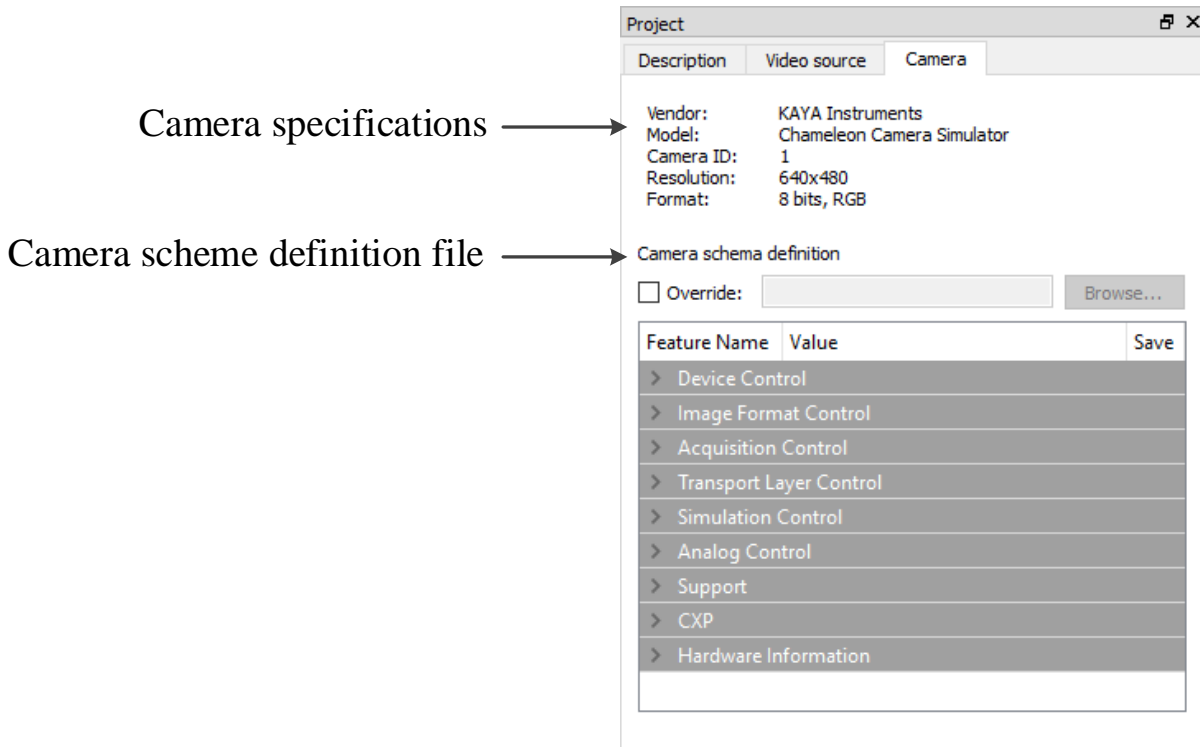

Figure 6 : Camera project navigator tab
3. A Camera tab enables configuring the camera GenCam parameters listed in the camera XML file. It also enables specifying a camera configuration of the native XML file or an external XML file may be loaded from the camera. Override option should be selected in that case. Refer section 7 for more information. The camera tab is shown in Figure 6.